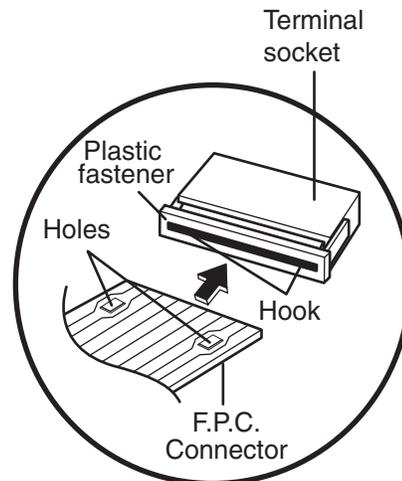

Figure 16
Follow the steps below as illustrated in Figures 16 and 17 to insert the F.P.C. connector.
- (1) Insert the F.P.C. connector into the terminal socket securely with the fingers.
- (2) Hold the plastic fastener with thumb and forefinger of the other hand, and push it slowly into the terminal socket. (Figure 16)